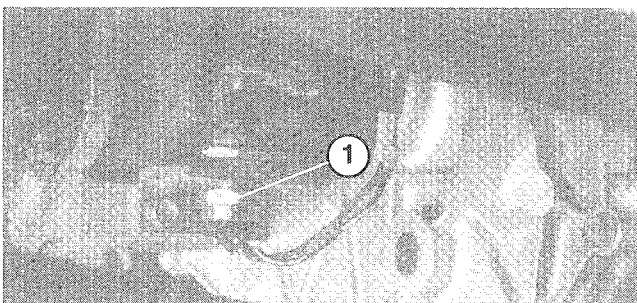

Figure 54
7. Recheck clutch safety switch adjustment (Fig. 54). Engine must not crank unless clutch pedal is $1.25" \pm .12"$ from floor. If an adjustment is required, loosen switch jam nuts and adjust up or down.